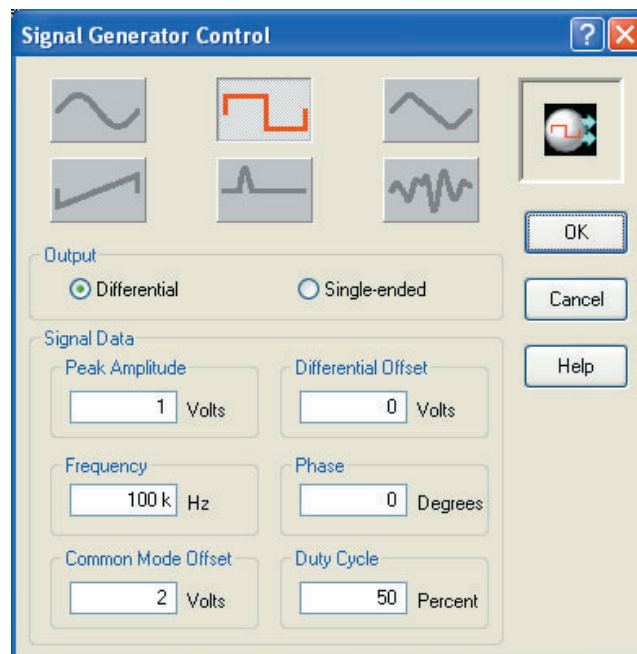

FIGURE 7
**Millman's Equivalent Voltage ( $V_{EQ}$ ) and Equivalent Resistance ( $R_{EQ}$ )** Millman's theorem gives us a formula for calculating the equivalent voltage,  $V_{EQ}$ . To find  $V_{EQ}$ , convert each of the parallel voltage sources into the current sources, as shown in Figure 7.
▲ FIGURE 7
In Figure 7 (b), the total current from the parallel current sources is
The circuit is now installed and connected in the design window, and you have selected the CAM parameter(s). Now, you should verify that the circuit operates properly by running a simulation. First, select the signal generator and place the icon at the input pin. Click on the icon to bring up the parameter window, select the appropriate function, and set the values. In this example, the pulse output has been selected, the frequency has been set to 100 kHz, the peak value to 1 V, and the duty cycle to 50%, as shown in Figure 7.